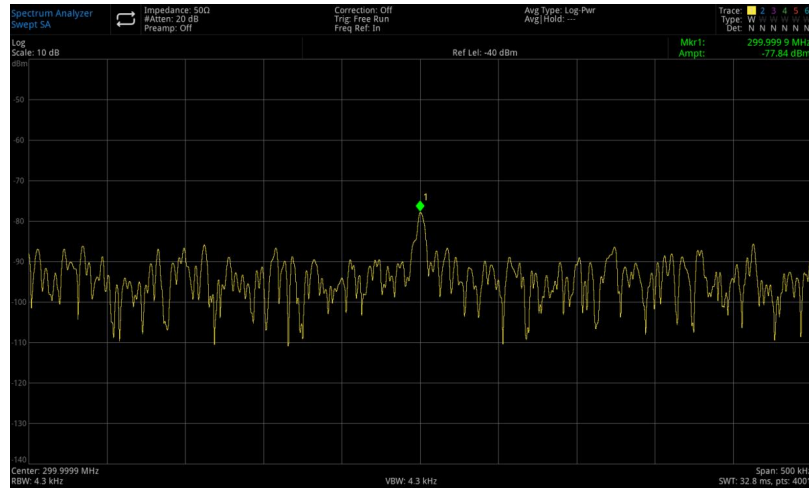

Figure 3-11 Signal Close to Ground Noise
- Decrease the sweep bandwidth to 500 kHz (as shown in Figure 3-11)